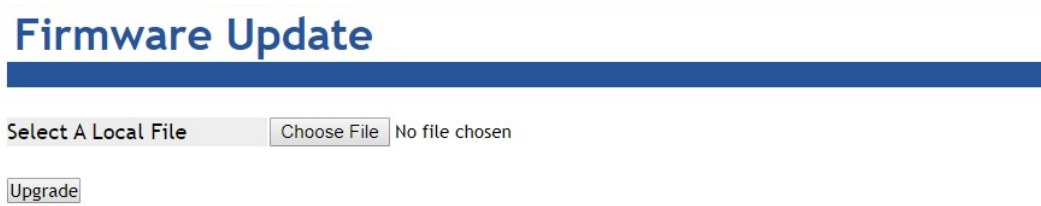

Figure 4-7-3: Firmware Update Page Screenshot
This page facilitates an update of the firmware controlling the switch. The Firmware Update screen in Figure 4-7-3 appears.
2. The Firmware Update screen is displayed as in Figure 4-7-3.